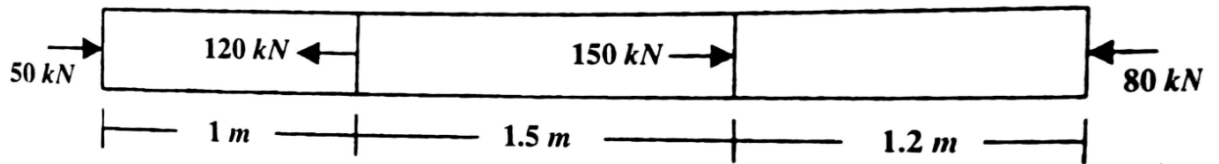

FIG 1.
- (a) A mild steel bar, 2400mm^2 in cross-section is subjected to axial forces as shown in fig.1. If Young's modulus is 200GPa then find deformation developed in length of the bar. **03**